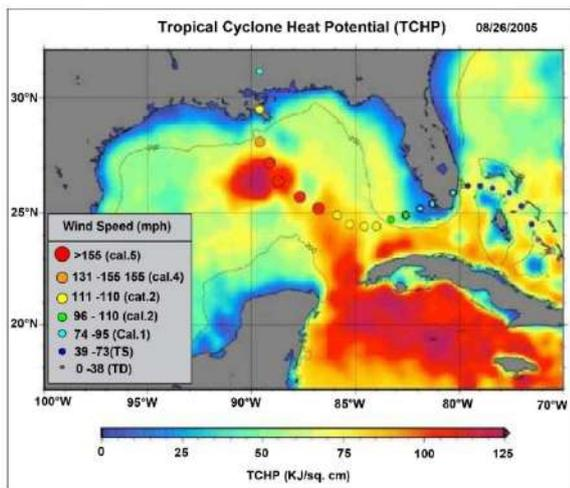

Figure.10. Hurricane Katrina intensified by TCHP
A TC is considered to undergo Rigorous Intensification (RI) when the maximum sustained wind speed increases by  $\geq 15$  m/s within 24h. The concept of energy transfer from the underlying warm ocean surface to developing cyclones based on the principle of the Carnot heat engine was initially propounded by Palmen in 1948 and subsequently used by Leipper and Volgenau to analyse the intensification of the TC in the Gulf of Mexico (GoM). The role of TCHP in the RI of TC was first understood in 1995, from the behavior of Hurricane Opal in the GoM, which intensified from Cat-1 to Cat-4 in 14h as it went over a warm-core ring with TCHP of  $113\text{kJ}/\text{cm}^2$ , compared to outside which as  $63\text{kJ}/\text{cm}^2$ . Subsequently, NOAA recognised regions with TCHP above  $90\text{kJ}/\text{cm}^2$  are most likely to cause RI. During Hurricane Katrina, TCHP was critically high in the GoM, particularly over the loop current and its warm ring ( $>120\text{kJ}/\text{cm}^2$ ), enabling the hurricane's RI to a Cat-5 storm before landfall (Figure.10). It was an extremely powerful and catastrophic TC that resulted in  $\sim 1400$  casualties, and caused damage worth US\$ 125 billion.